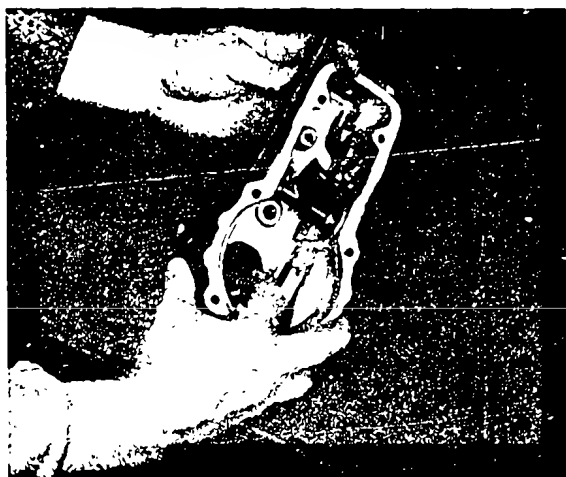

Fig. 39 Checking swivel lever for ease of movement
Securely lock control lever with hex. head screw (70) and spring-washer (71). Check ease of movement of swivel lever by moving control lever backwards and forwards (Fig. 39).